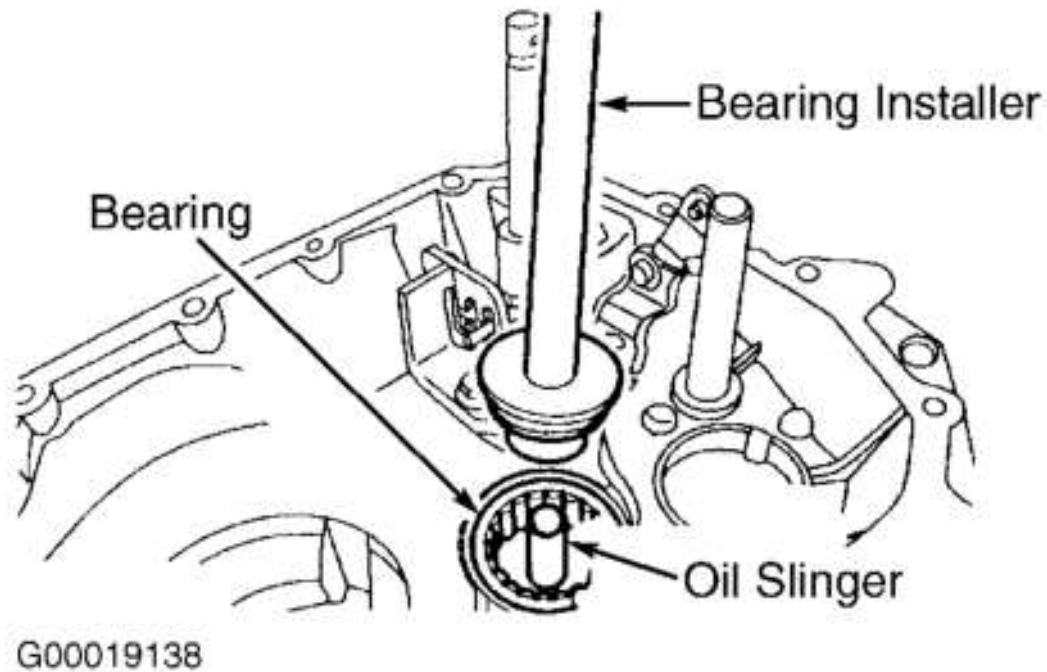

Fig. 22: Installing Output Shaft Bearing
1. Install output shaft bearing and race into case. See **Fig. 22** . Install oil slinger. Install 5th-Reverse gear selector plate and rod. See **Fig. 11** .